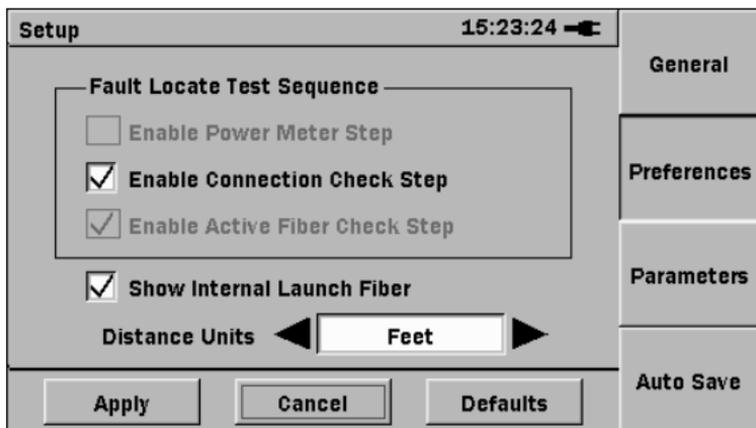

Figure 3-7: Preferences Setup screen
2. Highlight **Setup** and then press the **Set key**. The Preferences Setup screen appears (see Figure 3-7 on page 3-9).